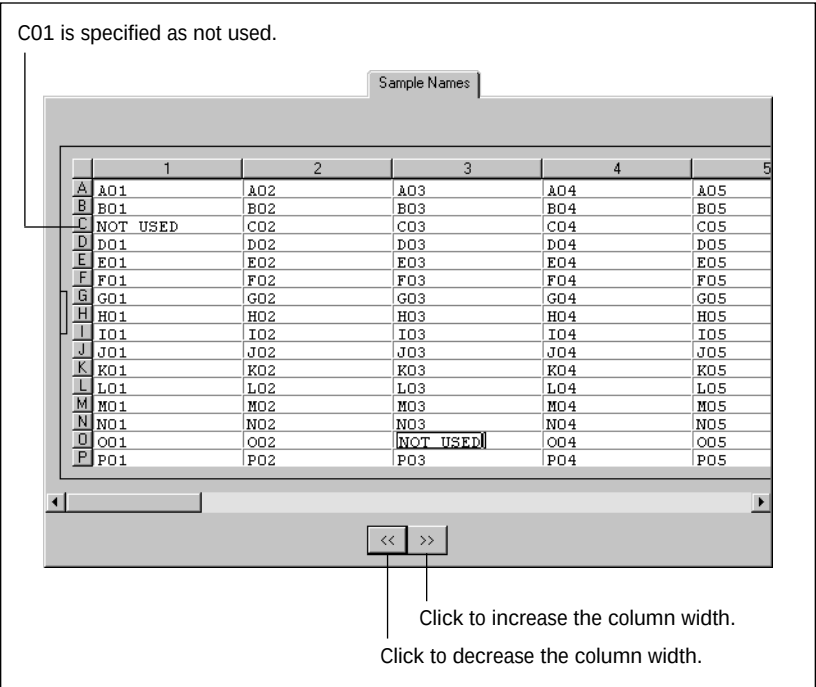

Figure 6-3. The Sample Names tab of the Plate Setup window.
1. In the **Sample Names** tab of the Plate Setup window (figure 6-3), adjust the width of the column that includes the unused well. To increase the column width, click the **RIGHT ARROW** key in the Sample Names tab. To decrease the column width, click the **LEFT ARROW** key in the Sample Names tab.